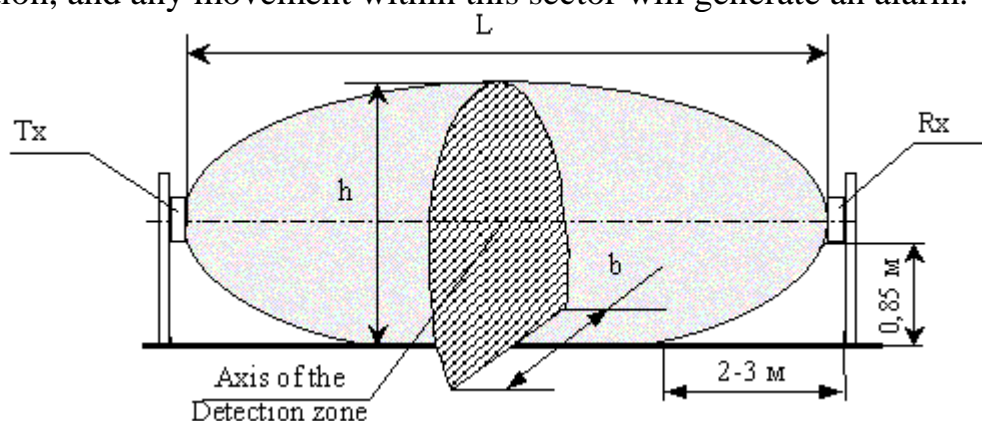

Fig.3.1
3.2. The configuration and the detection zone's dimensions are given in fig.3.1 and table 3.1.
In fig.3.1 and table 3.1 the height (h) and the width (b) of the detection zone are given for the middle of the sector. Moving towards the receiver or transmitter these dimensions decrease evenly, given the geometry of positioning the receiver and transmitter.
The principle of the sensor operation is to generate an electromagnetic field in the space between a transmitter and a receiver. This field provides a volumetric detection zone in the form of a long ellipsoid of rotation (see fig.3.1). An intruder crossing a detection zone causes changes of the field. All changes of this field are recorded. There is the detection zone configuration in fig.3.1, there are given in table its crosscuts dimensions for three performances of the sensor dependency on the length of a sector with the height 0,85m of Rx & Tx mounting.